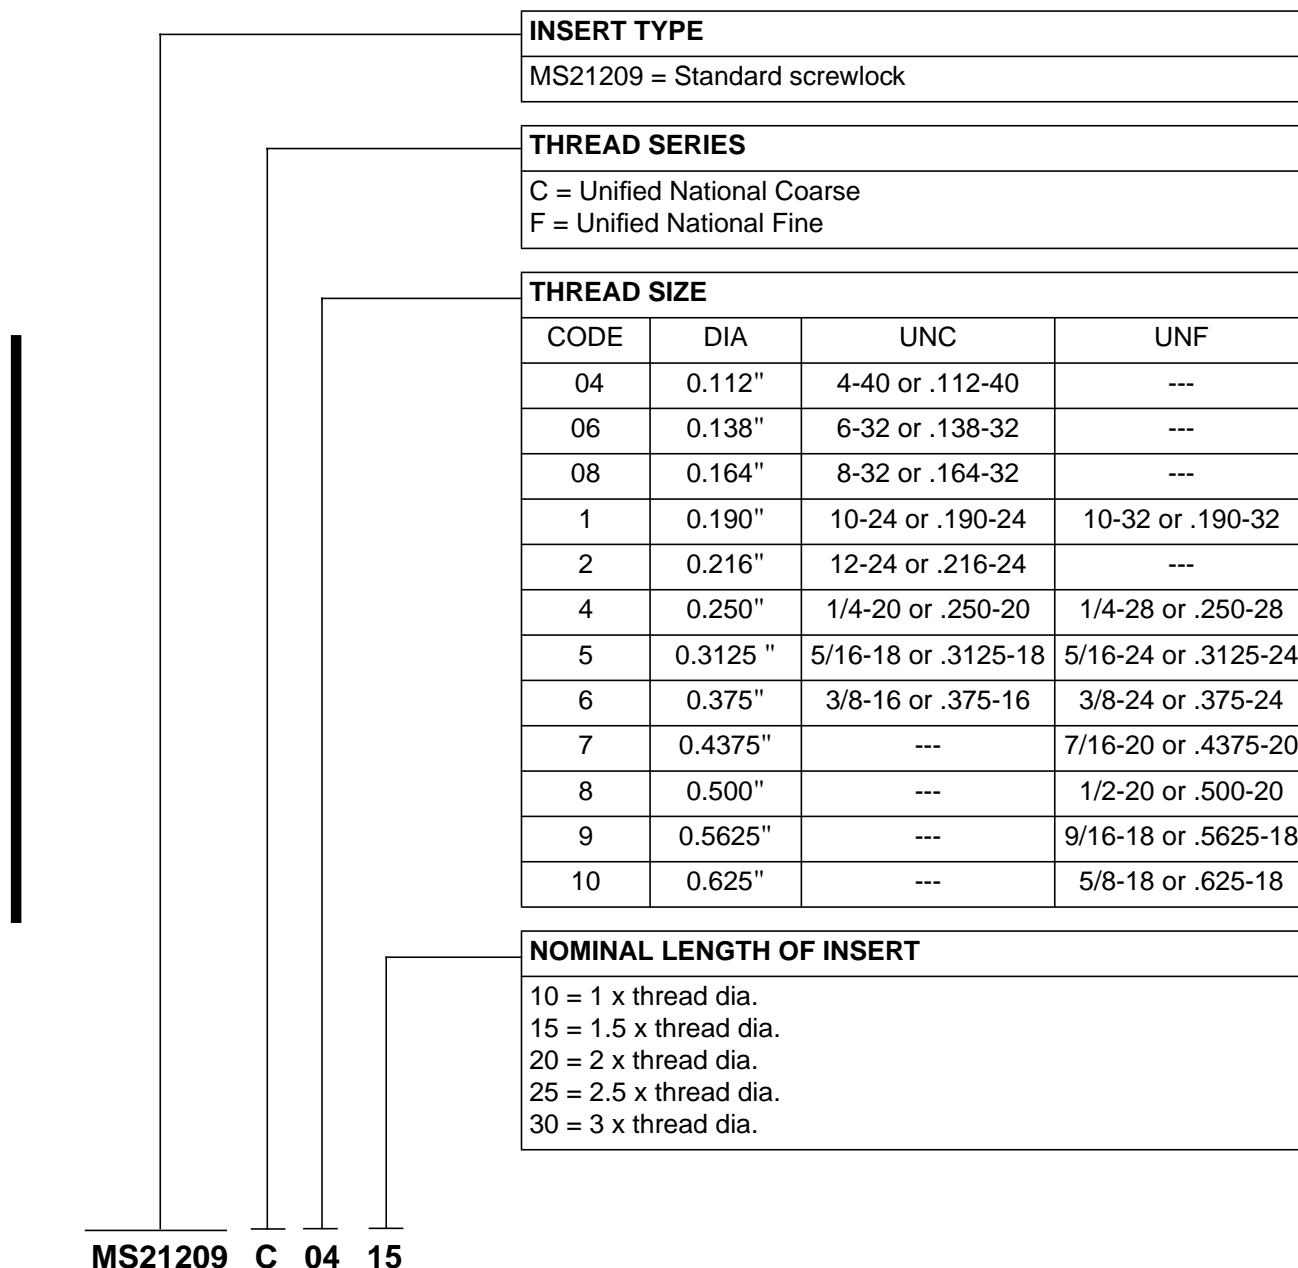
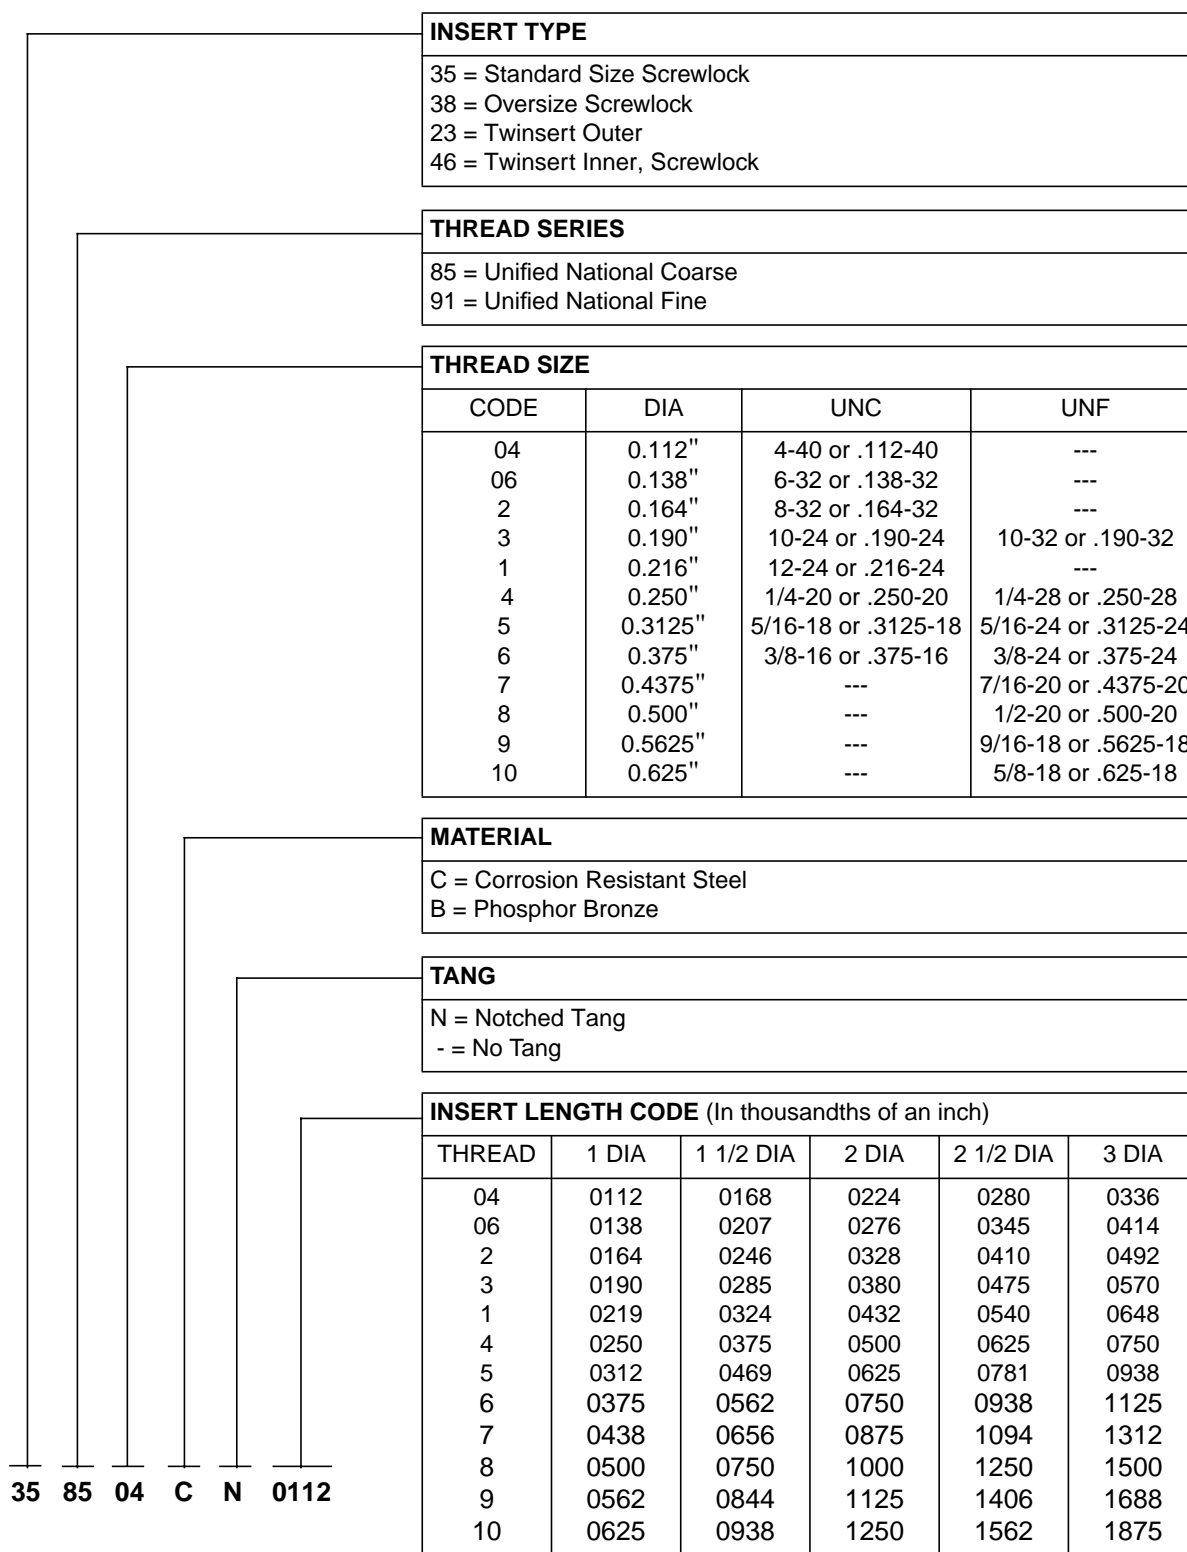

Figure 1 - MS Screw Thread Insert Part Number Breakdown
Figure 2 - Heli-Coil Part Number Break Down
- 4.1.1 Heli-Coil screw thread inserts as specified on the engineering drawing. Refer to Figure 1 for a breakdown of the MS identification for standard size Heli-Coil screwlock inserts. Refer to Table 1 for a breakdown of the Mil. Std. identification for standard size free running Heli-Coil inserts. Refer to Figure 2 for a breakdown of the manufacturer's identification of Heli-Coil screwlock inserts.